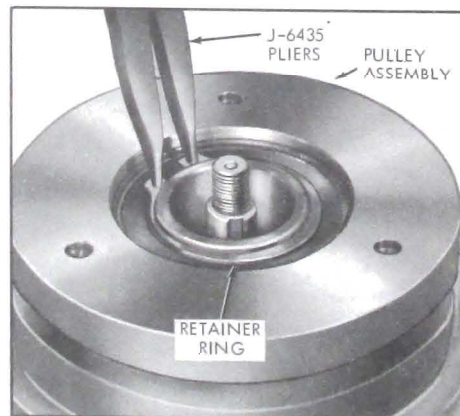

Figure 11-47—Removing Pulley Retainer Ring
2. Remove pulley assembly retainer ring, using J-6435, No. 26 Truarc pliers. See Figure 11-47.